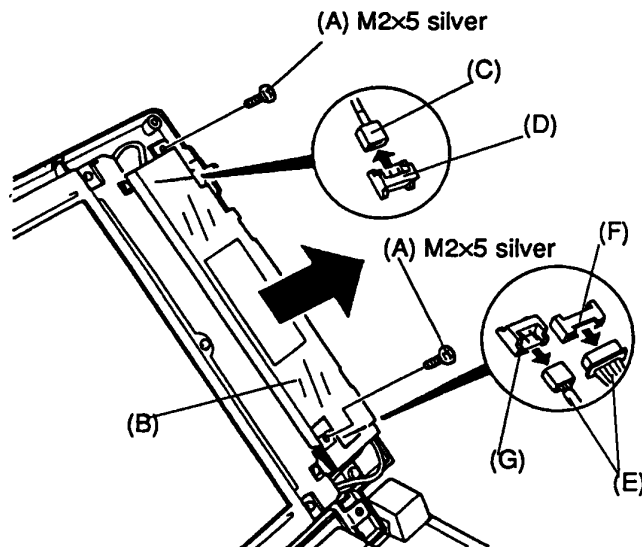

Figure 4-37 Removing the FL inverter board and disconnecting the display cables
3. Remove the two (M2x5 silver) screws (A) securing the FL inverter board (B).
4. Rotate the FL inverter board toward the LCD module and disconnect the cable (C) from CN2 (D) and disconnect the two cables (E) from CN1 (F) and CN3 (G) (Figure 4-37).
7. Install the two (M2x5 silver) screws to secure the FL inverter board to the LCD cover (Figure 4-37).